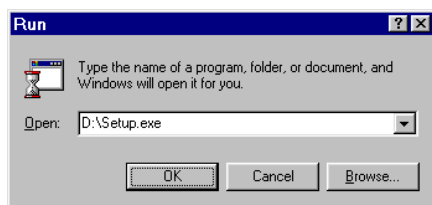

Figure 15. Software VRS Installation Program Path
- 2 The installation should automatically begin. If it doesn't, select **Start | Run** and open D:\Setup.exe as shown in Figure 15, where D is the CD-ROM drive. To select the path, do one of the following from the **Run** dialog box: